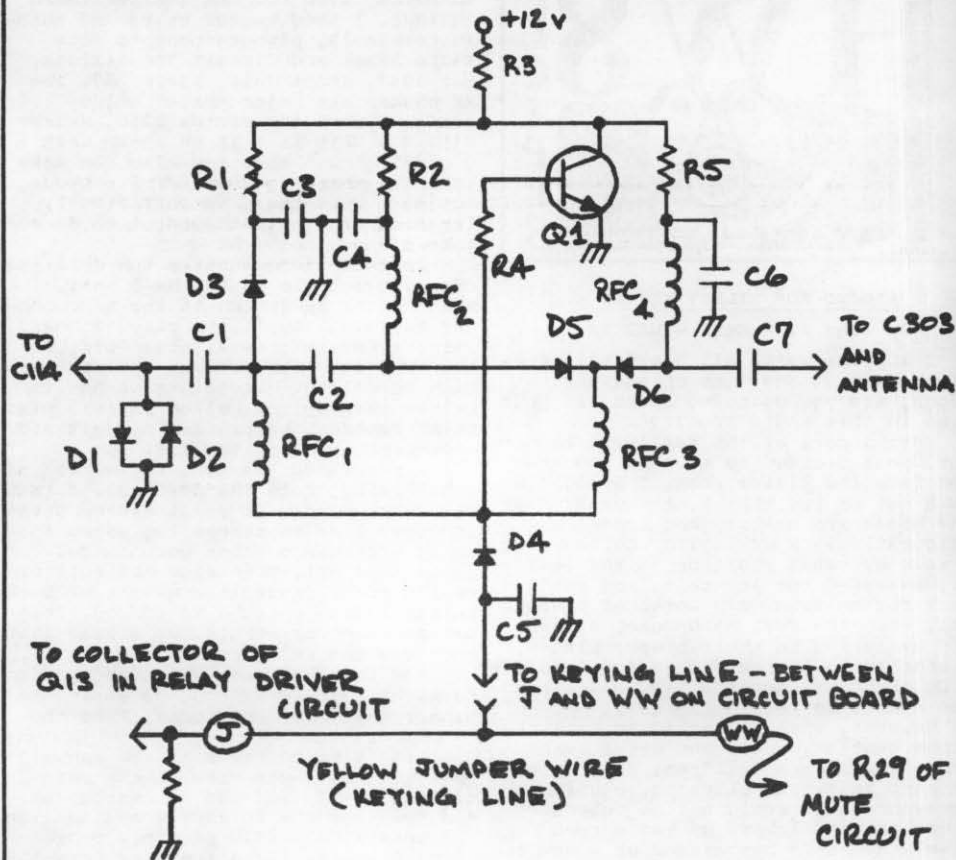

FIGURE 1
As they say, "Necessity is the mother of invention." So out of necessity I started inventing. The result is the circuit in figure 1, Page 8. I replaced the antenna relay RYL with an electronic transmit-receive (TR) switch. The circuit is a diode switch. During reception, diodes D₁ and D₂ are forward biased, and D₃ is reverse biased. The receive signals will pass through without being impaired. During transmission, D₁ and D₂ are reverse biased, blocking the transmitted sine wave. D₃, added insurance, becomes forward biased to pass to ground any RF that might try to sneak through. D₄ and D₅ are placed back-to-back, the third insurance factor should the other safety devices fail to protect the receiver.
Figure 1 on Page 6 suggests how this can be done. Bind the tie wires very tight, using pliers. Space the spreaders uniformly at the distance you have chosen (2 feet suggested). When all spreaders have been attached, give each tie wire a dollop of paint where the tie wire is twisted around the line wire. This will prevent the tie wire from loosening as time passes and sliding down the line wires. If you don't like paint, "Duco" cement will also do the job.